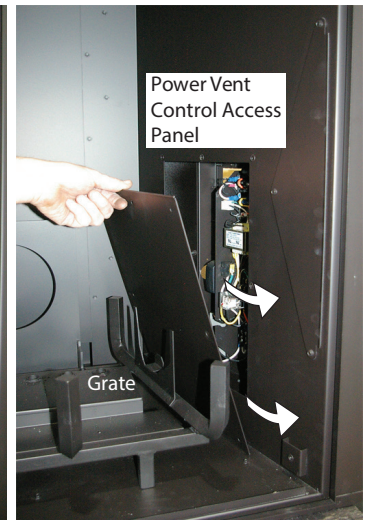

Figure 26a. (Removing the panel from the firebox).
**Step 4.** Slightly tilt panel, and pull out between the grate and firebox wall, **Figure 26a.**